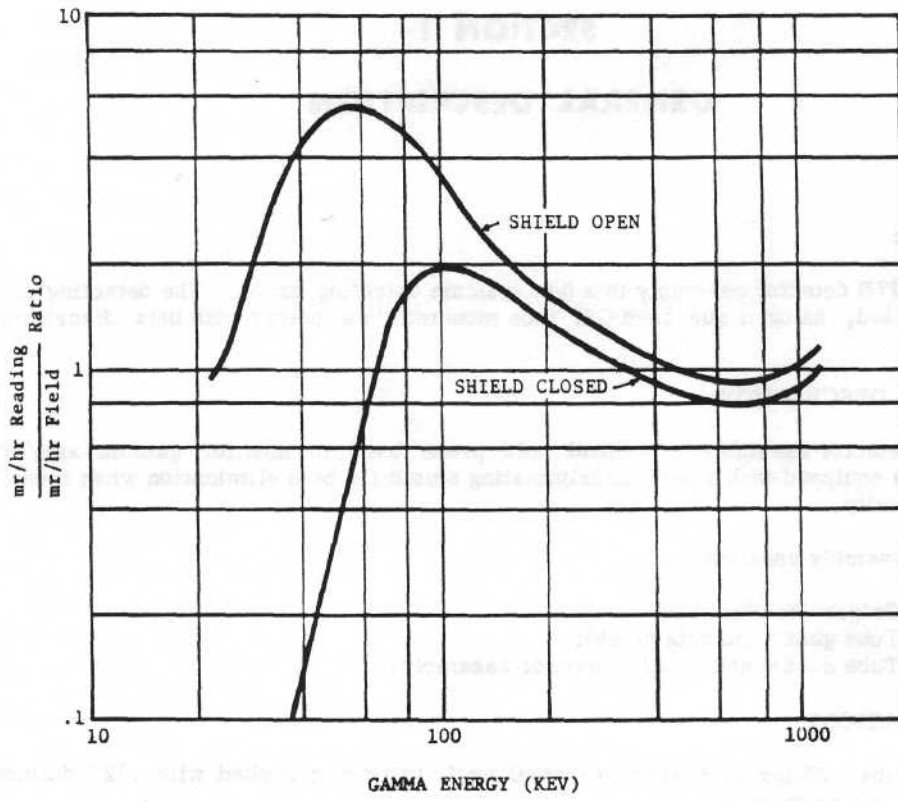

Figure 1-2. Typical Energy Response of E-120
6. Energy Response: See figure 1-2.
Low energy gamma radiation can cause considerable error in reading. An estimate of the energy may be made by taking the ratio of shield open and shield closed readings and referring to figure 1-2.